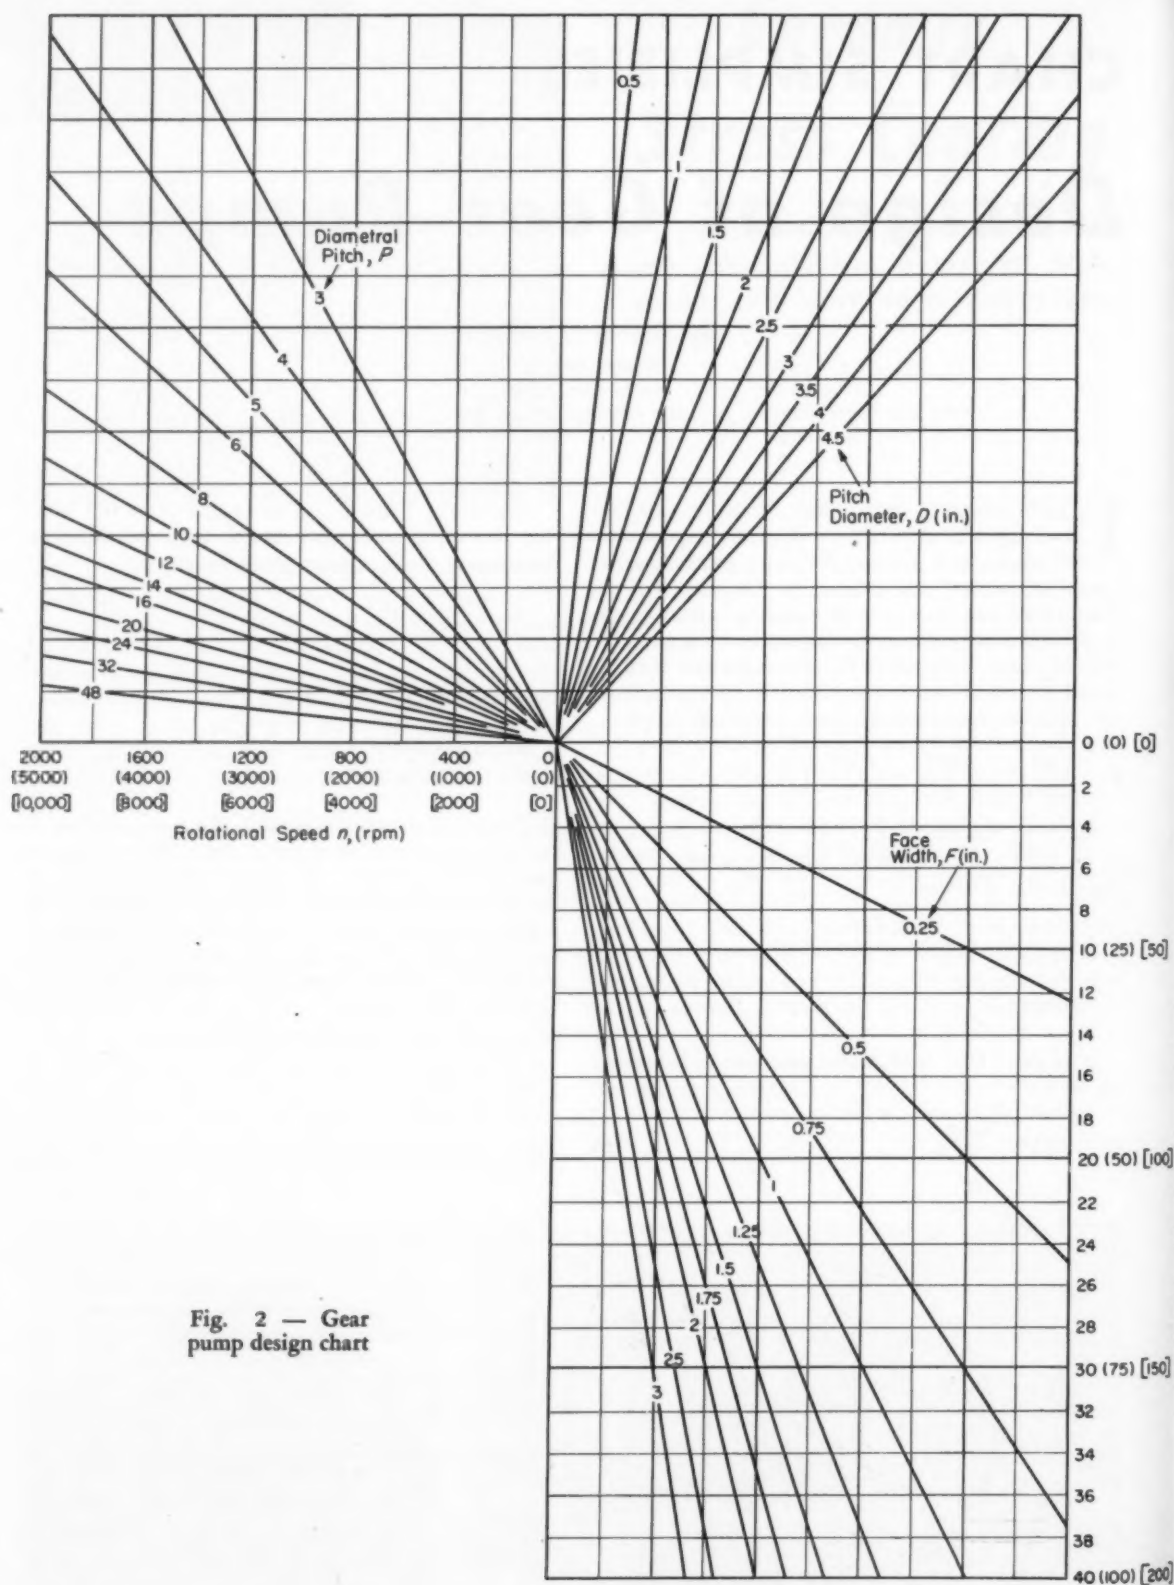

Fig. 2 — Gear pump design chart
Whenever original design is initiated, a quick graphical method for determination of gear pump dimensions, speed and output is provided by the chart shown in Fig. 2 which is plotted from Equation 2. Use of the chart naturally depends upon given or suitable pump dimensions, delivery and speed; of course, many of these factors are somewhat optional. The following examples point up the utility of this chart.
**EXAMPLE 1.** For a gear pump having a speed  $n = 1200$  rpm and gear dimensions of  $P = 24$ ,  $D = 1$  inch, and  $F = 0.75$ -inch, what is the output capacity  $Q$  in gpm? Alternate methods of solution can be applied with the chart in Fig. 2.
Since the pump will be only 80 per cent efficient, design output capacity is  $Q/\eta$  or  $60(100)/80 = 75$  gpm. On Fig. 2, lay off a horizontal line through  $Q = (75)$  gpm and extend this line across the gear width lines. Lay off a second line vertically upward from  $n = (3000)$  rpm which cuts across all diametral pitch lines. By using a right triangle, keeping the two legs parallel to principal axes of chart, Fig. 3c, position the triangle so that the apex of the right angle lies within the range of pitch diameter lines while the two triangle legs intersect the previously laid out lines within the range of diametral pitch lines and gear width lines. By moving and scanning the triangle, diametral pitch, pitch diameter, and face width can be selected arbitrarily to meet any specific design limitations or requirements. Therefore, one of many practical solutions to this problem is  $P = 5$ ,  $D = 3$  inches, and  $F = 1.53$  inches, as indicated in Fig. 3c, and  $N = DP = 3(5) = 15$  teeth.